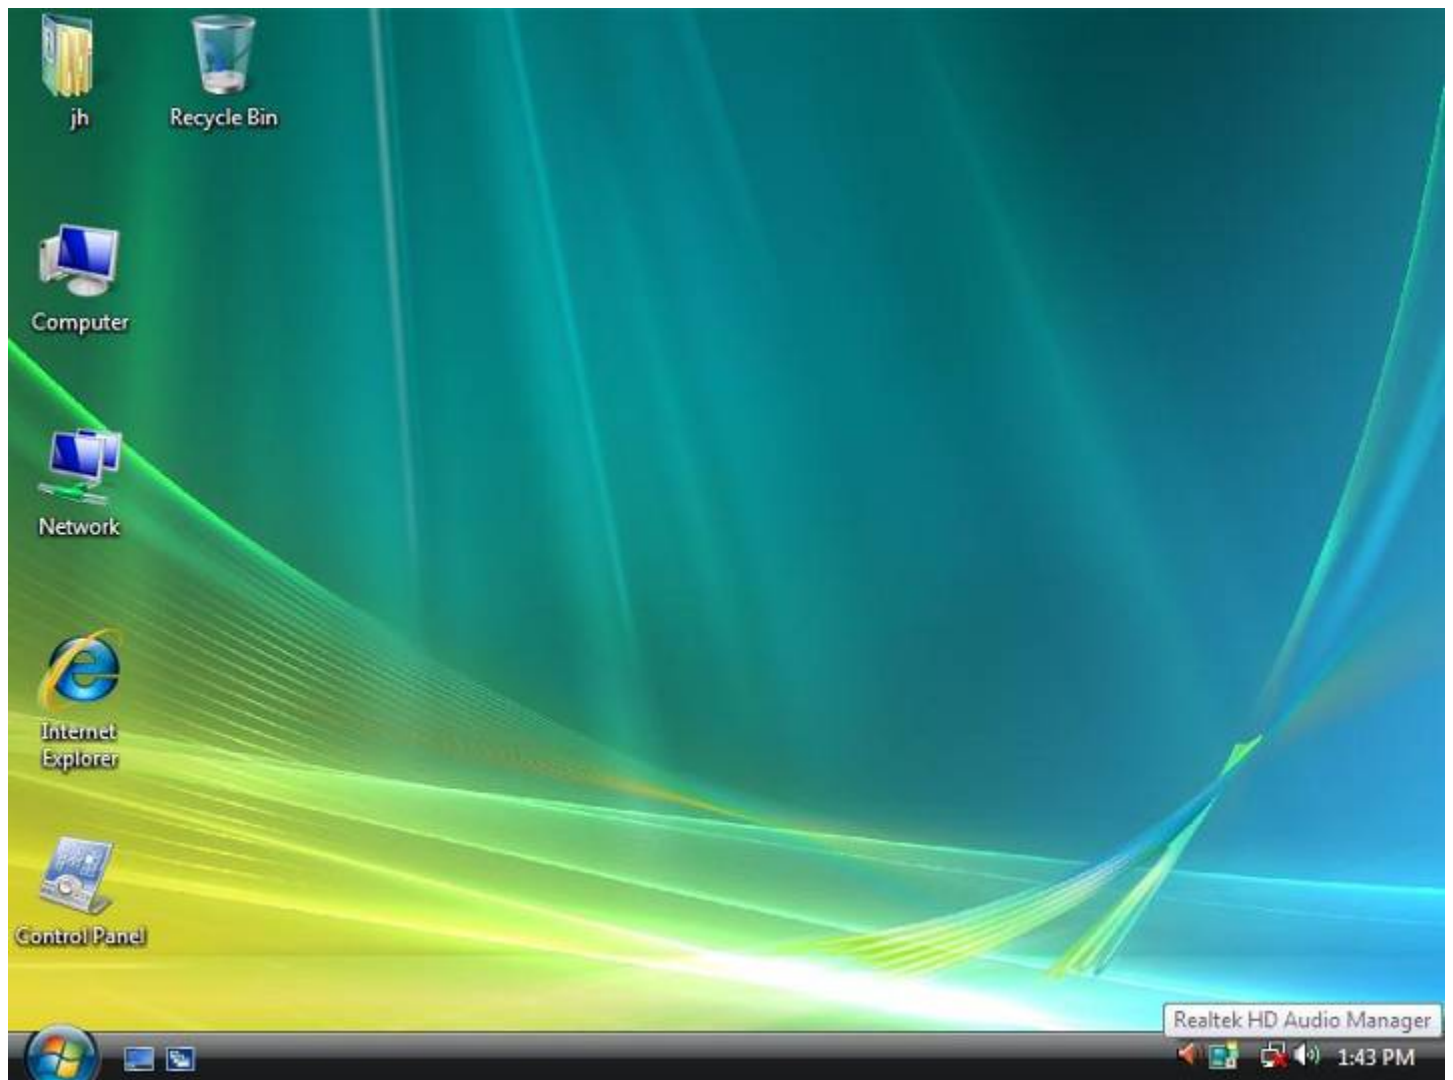

Fig. 10
1. After the driver for the audio adapter is stalled, you can click the Audio Manager at the lower right corner. The initial interface will pop up, as shown in Fig. 10 and 11.